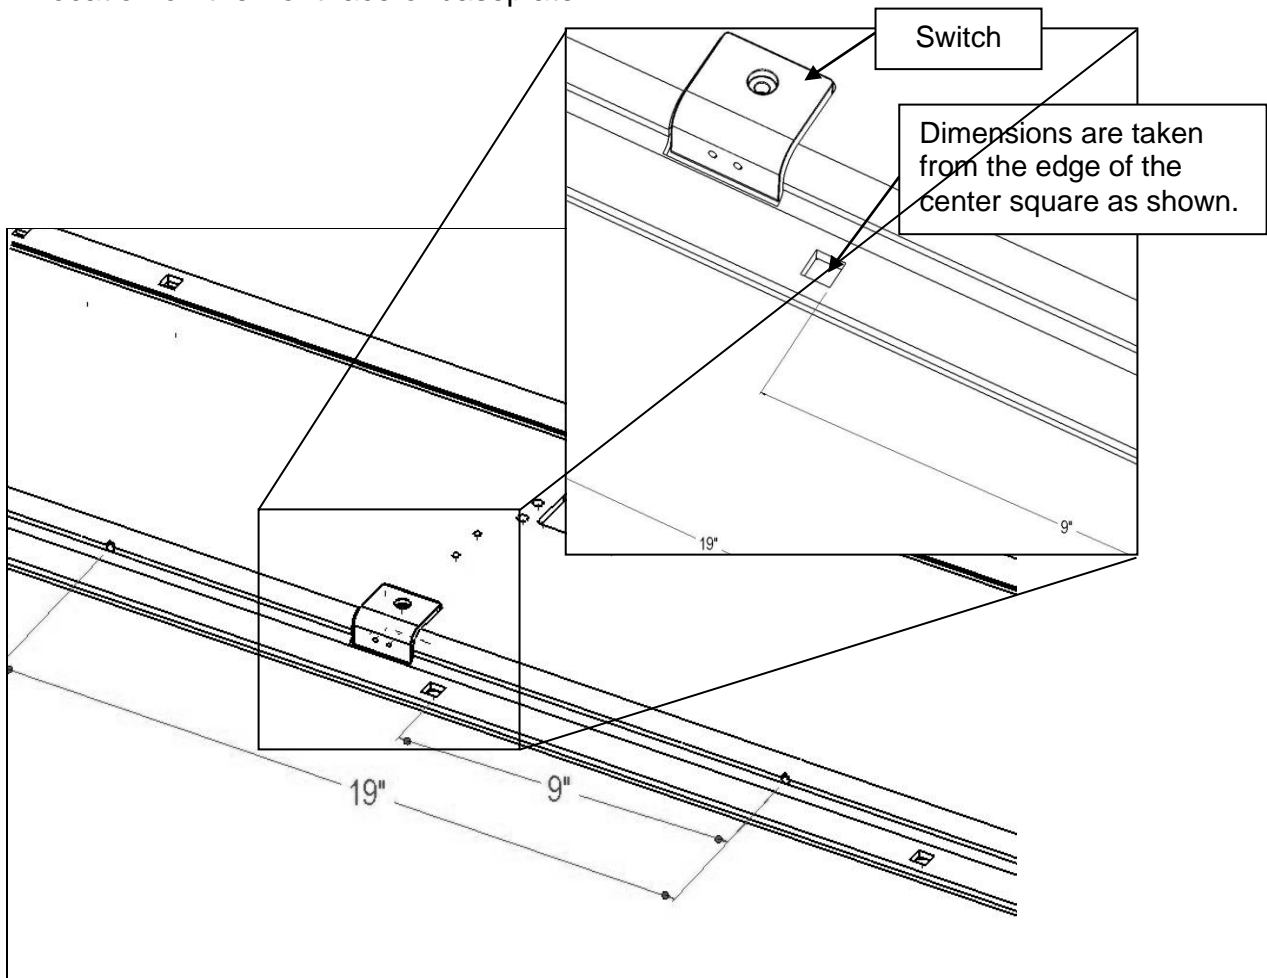

Figure 3
3. Refer to **Figure 3**. Measure 9" from the right edge of the square hole and mark this location on the front face of baseplate.